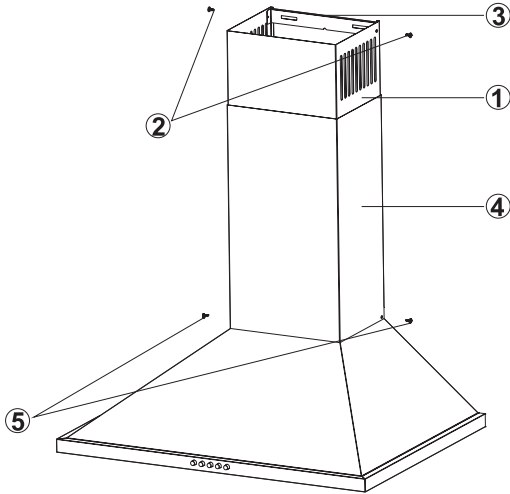

Figure 10: INSTALLATION OF FLUE
- Center the plate to connect the cooker hood to the flue (3), keep it under the cover and measure and mark the points C and D (Figure 10).
- Drill the points C and D using the 0.6 mm drill bit and place 0.6 mm plastic dowels. Place the plate connecting the flue on the surface where the 3.9x22 screws will be inserted (Figure 10).
- Pull out the inner flue (1) with the screw (2) and tighten it to the flue connection plate on both the right and left sides (3) (Figure 10).
- Place the outer flue (4) on the cooker hood body (5) using 2 dowels (6) (Figure 10).